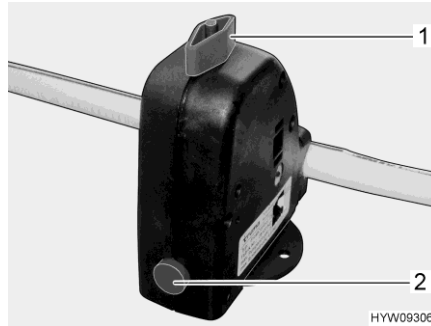

Fig. 120 Safety/drainage valve (boiler)
The boiler is equipped with a safety/drainage valve (Fig. 120). The safety/drainage valve prevents water in the boiler from freezing, when there is frost and the heater is not switched on.
- Close the safety/drainage valve. Turn the knob (Fig. 120,1) perpendicular to the safety/drainage valve and push the push button (Fig. 120,2) in.
- Open the safety/drainage valve. To do this turn the knob (Fig. 120,1) parallel to the safety/drainage valve. The push button (Fig. 120,2) jumps out. The boiler is drained to the outside by the safety/drainage valve.